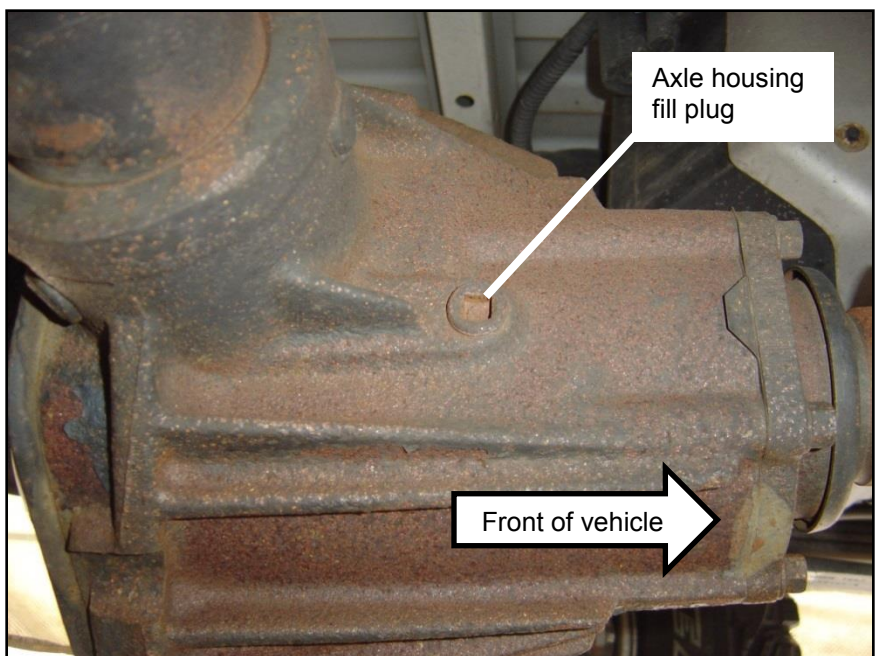

Figure 1
STEP 3. Remove the axle housing fill plug with a 3/8" square ratchet and extension (See Figure 1).